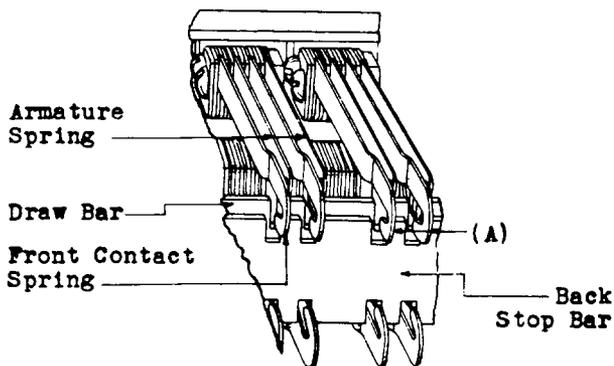

Fig. 11
2.14 Front Contact Spring Tension: Fig. 11(A) -